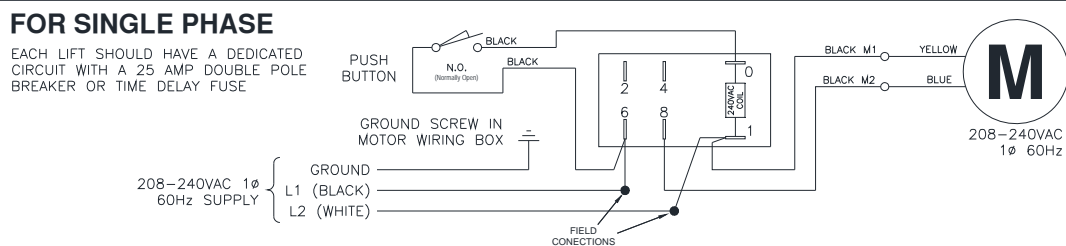

Fig 22 – NON STANDARD 230V WIRING DIAGRAM
- 37) Connect the power unit to a suitable electrical power source. The standard power unit is 115 volt 50/60 Hz single phase requiring a dedicated single throw circuit breaker to operate lift at full capacity. For 230V power unit, refer to **Fig 22**.